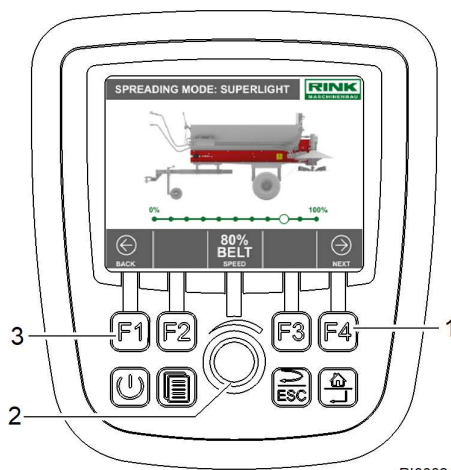

Fig. 35 Set transport speed
1. Turn the rotary control (Fig. 35/2) and set the desired transport speed for the conveyor unit.
3. Press the F4 button (Fig. 35/1). The next menu is called up.
4. Press the F1 button (Fig. 35/3). The previous control menu is called up.